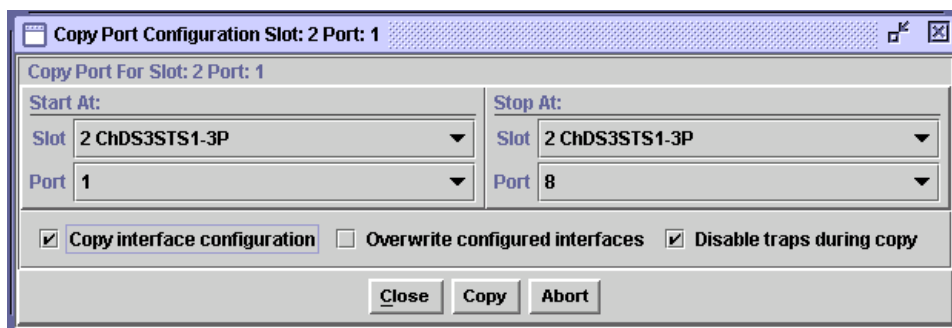

Figure 5-11. Sample Copy Port Configuration Window (After Selecting a Valid Attributes)
- 2 Select the range of slots and ports to which you wish the port configuration to be copied as follows (refer to Figure 5-11):